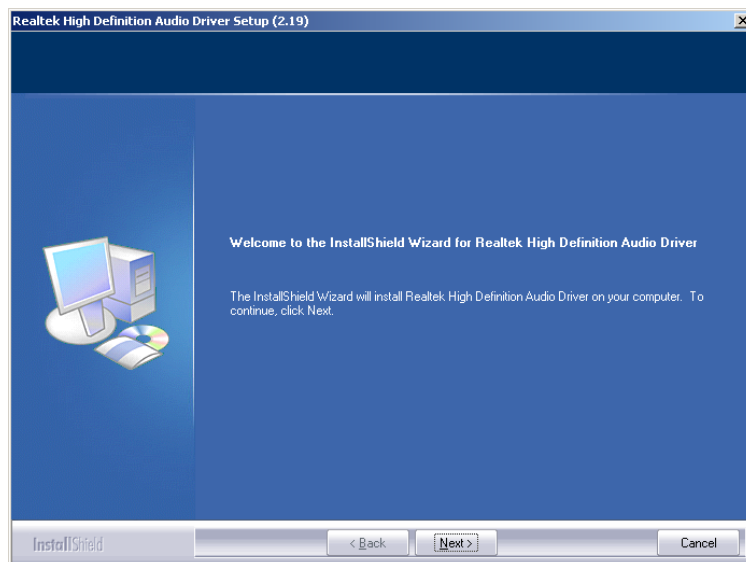

Figure 7-17: InstallShield Wizard Welcome Screen
Step 6: Once initialized, the **InstallShield Wizard** welcome screen appears (Figure 7-17).